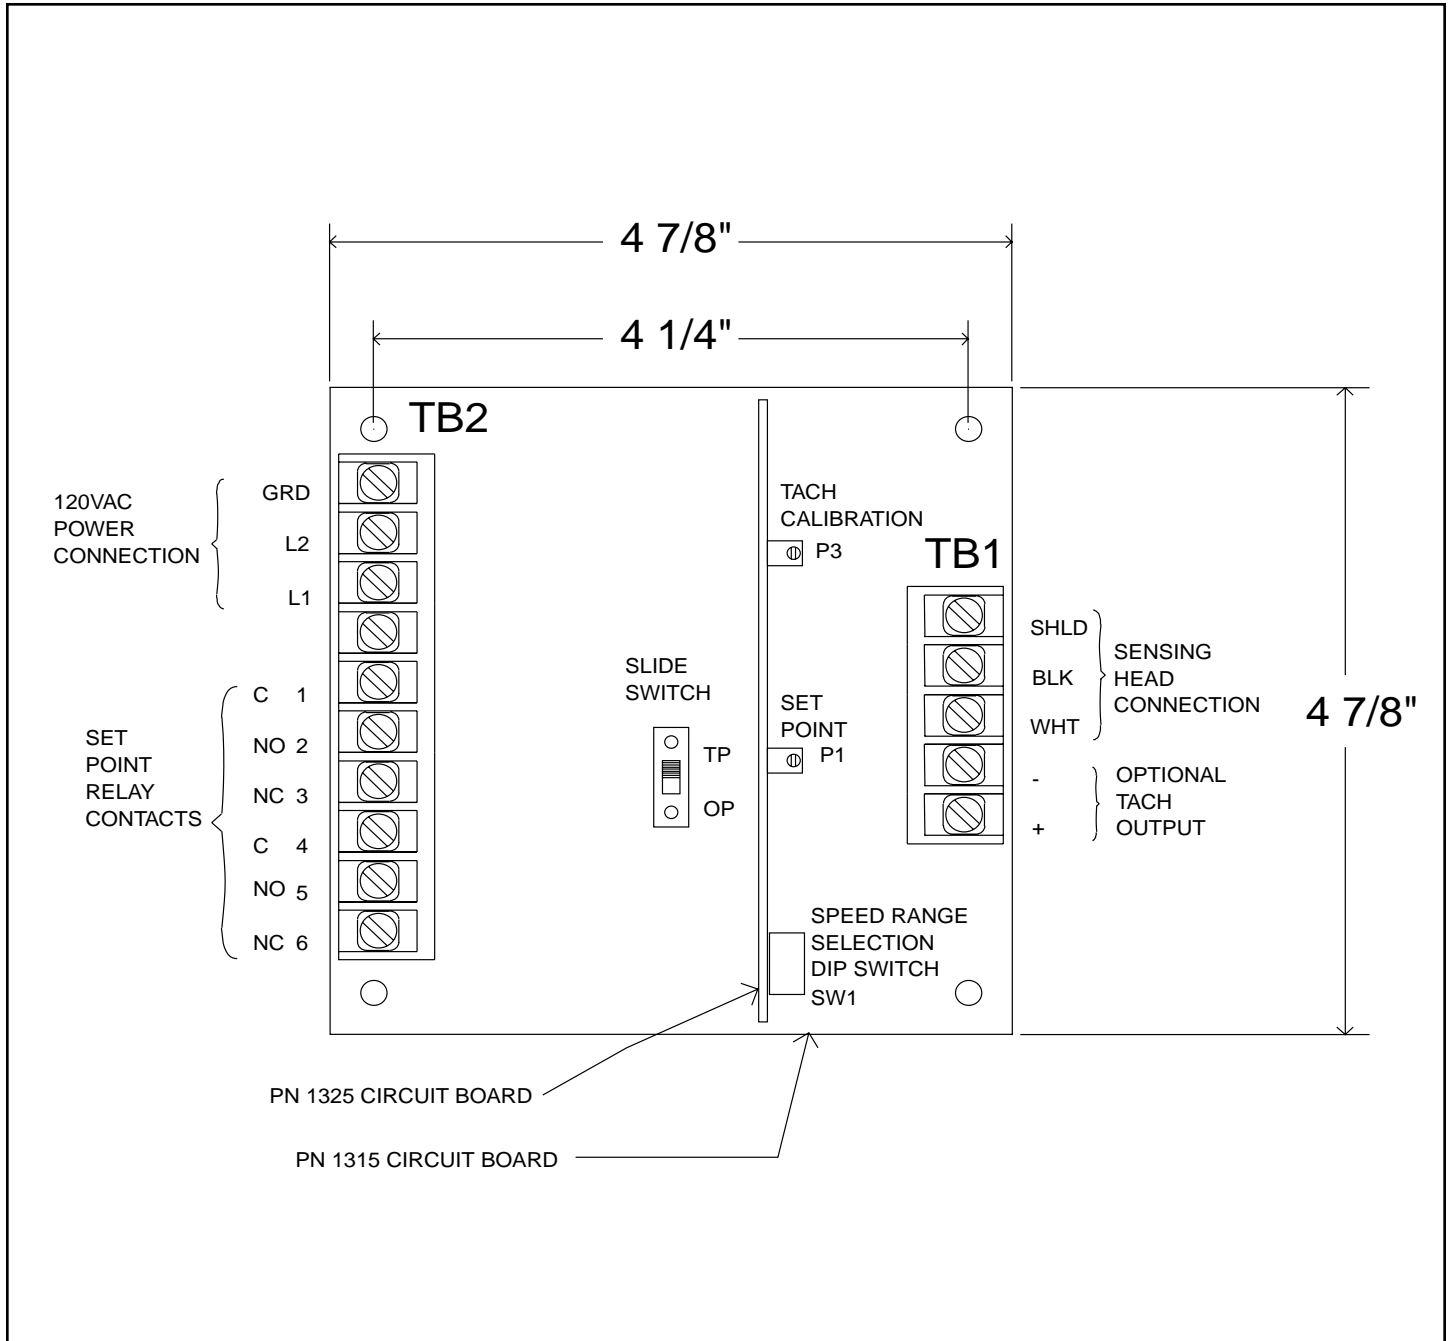
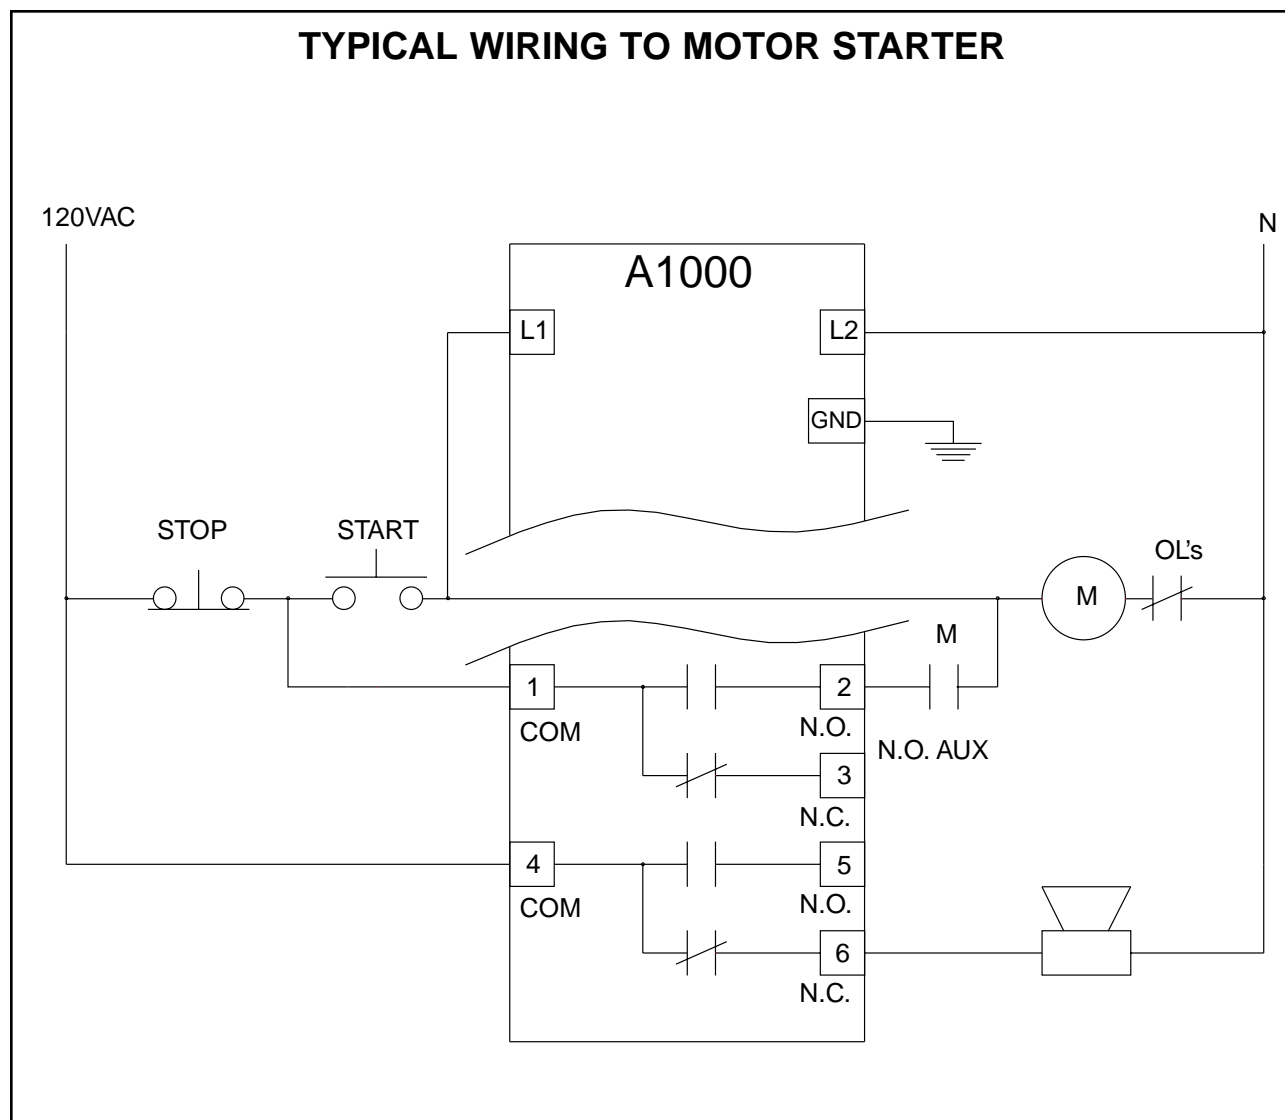

Figure 4
Figure 5
(see figure 4, page 6)
- 6.1** Power connections and relay connections to the A1000 speed switch are shown on figure 4, page 6. Also, figures 5, 6 and 7 show typical wiring diagrams.
- 6.2** Connect 120 VAC power to L1 and neutral to L2 on terminal block TB2 (see figure 4, page 6). See figures 5, 6 and 7 for examples of typical wiring diagrams. Connect equipment safety ground to GRD on terminal block TB2.